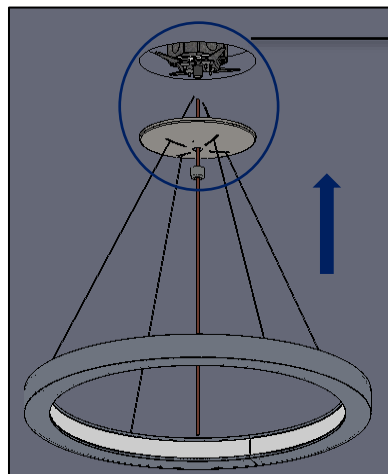

FIG. 14 - INSTALLATION VIEW
9. Raise the REV LUMINAIRE up, with multiple people, to the ceiling and feed the AIRCRAFT CABLE through the GRIPLOCK and CORD through NIPPLE which is available in MOUNTING BRACKET ASSEMBLY. Adjust the AIRCRAFT CABLE to the desired length as shown in FIG. 14 & 15 below.